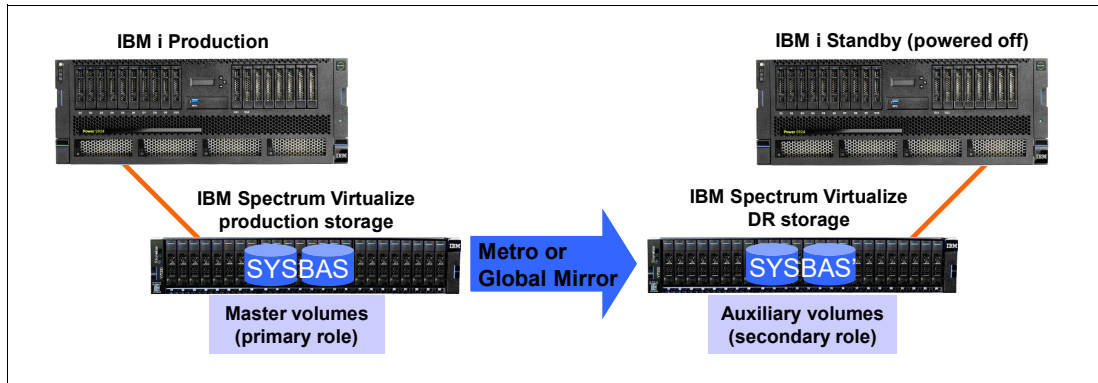

Figure A-11 IBM i full system replication with IBM Spectrum Virtualize
Full system replication is used for disaster recovery (DR) purposes where an IBM i standby server is used at the DR site, as shown in Figure A-11 on page 626. When a planned or unplanned outage occurs on the IBM i production server, the IBM i standby server can be started (IPLed) from the replicated SYSBAS volumes after they are switched from IBM Spectrum Virtualize to a primary role to become accessible for the IBM i standby host.